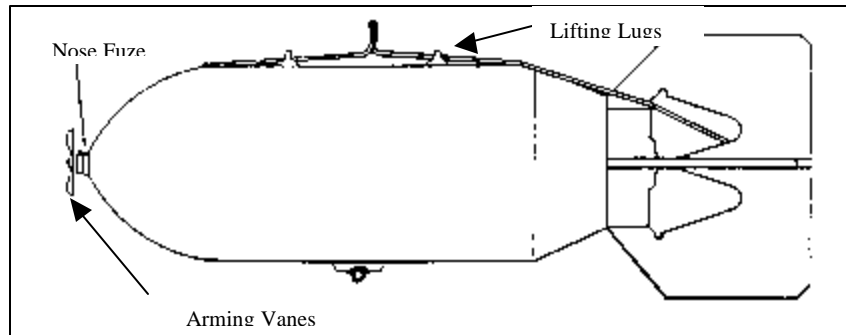

Figure 7. General Purpose bomb.
- (1) The general-purpose (GP) bombs of all countries are similar in construction to the one shown in figures 7 through 9. About 50 percent of the weight of most bombs is explosive filler. All unexploded GP bombs, whether buried or unburied, must be considered as having a delay or antidisturbance fuze. Observe all safety precautions, such as evacuating personnel, closing off areas, and preventing unnecessary vibrations near the unexploded bomb. The soldier must not attempt to uncover the bomb under any conditions.